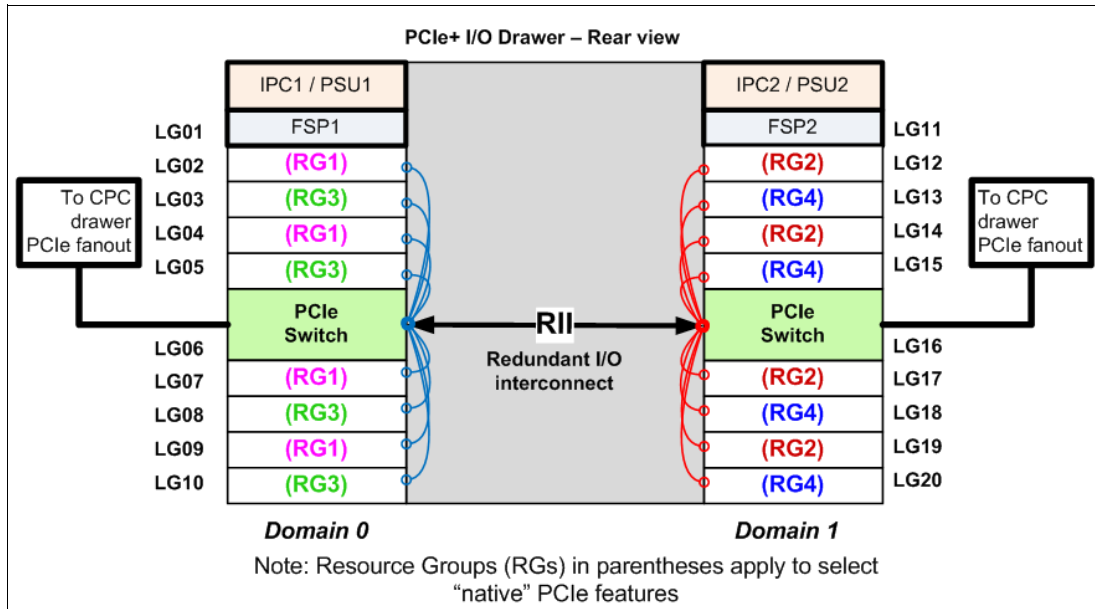

Figure 2-4 Relationship among PCIe+ I/O drawer slots, domains, and RGs in the z14 ZR1
The native PCIe feature support is provided by Resource Group (RG) code running on the integrated firmware processor (IFP). For resilience, four independent RGs are always on the system that share the IFP. For high availability purposes, always use at least two PCIe features located in different RGs, as shown in Figure 2-4.